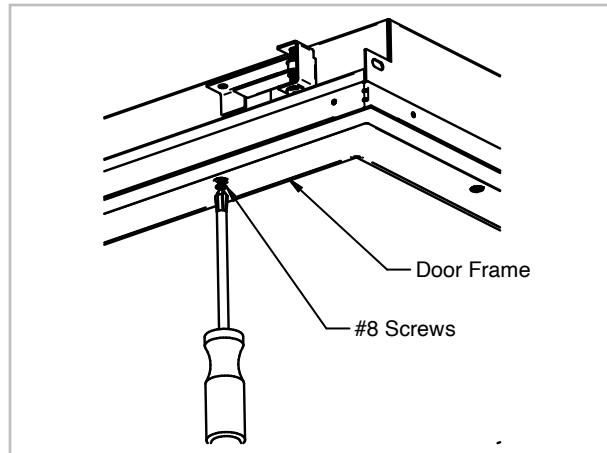

Figure 4: Door Frame Removal
4. To access the Wing Hanger Brackets, remove the Lensed Door Frame. The door frame is secured to the housing with #8 screws. See *Figure 4*.